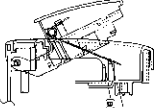

Fig. 7-2
1. Check the 2-point setting of the mechanism as shown in Fig. 7-2 and stand 2. Open the door of DECK I and DECK II simultaneously, and after the door is within 15 mm, 3. If the specification described on steps 1 and 2 have a not satisfied, When the door of DECK I opens, move the wire of DECK II. Change the DECK II door spring to position M.